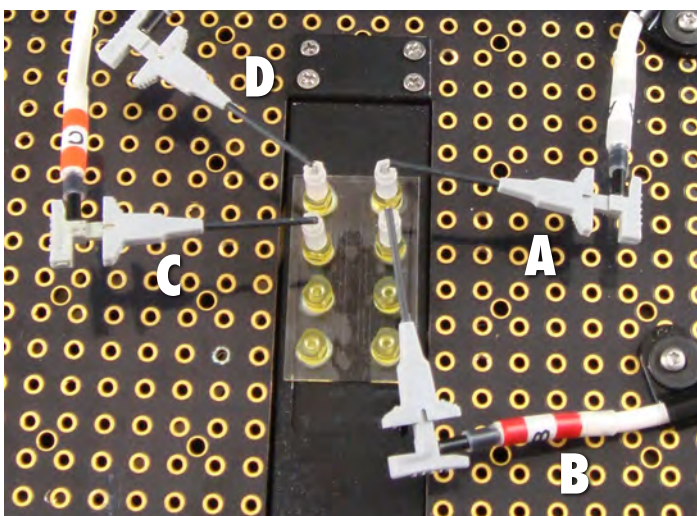

Figure 4. Correctly matched HVC cables with reservoirs and corresponding channel labels for the HVS448 Sequence program.
2. Place the electrodes in the CapTite™ reservoirs and connect them to the terminals of the HVS448. Make sure that **Terminal A** goes to sample, **B** to buffer waste, **C** to sample waste, and **D** to buffer (Figure 4).